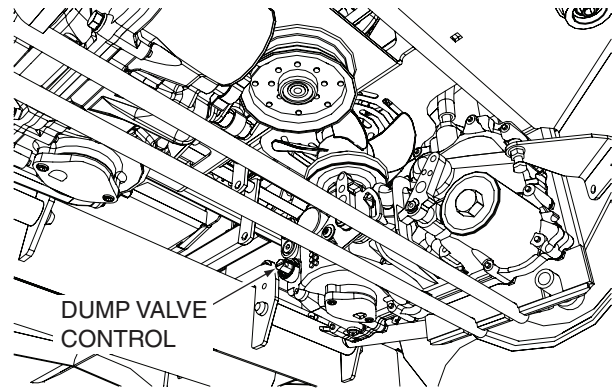

Figure 4-3. Dump Valve Control
10. **Dump Valve Control Levers (Figure 4-3).** Located on the hydraulic axles, used to "free-wheel" the mower. Rotating the levers clockwise until they stop allows the unit to move under hydraulic power. Rotating the levers counter-clockwise allows the mower to be moved by hand (free-wheeling).